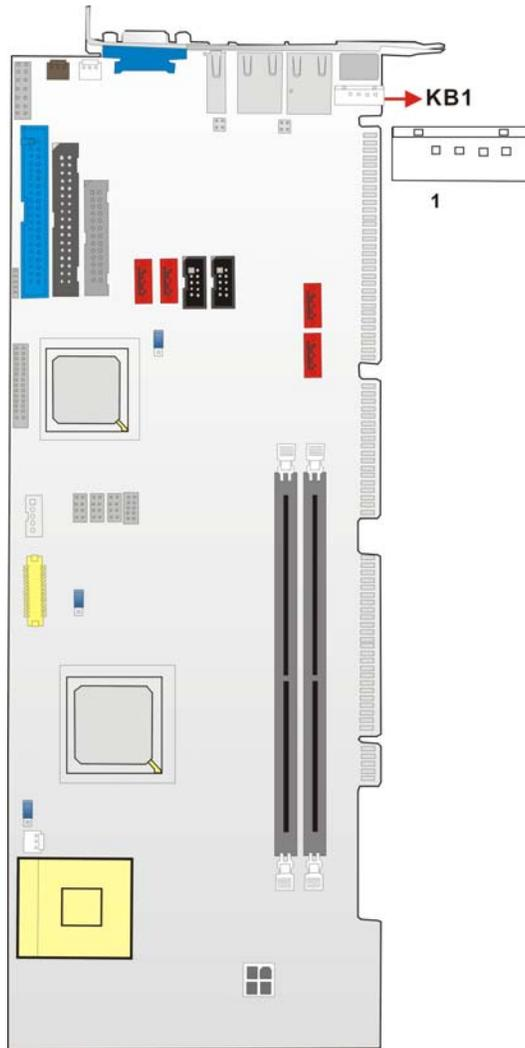

Figure 3-17: KB1 Connector Location
- CN Location:** See Figure 3-17